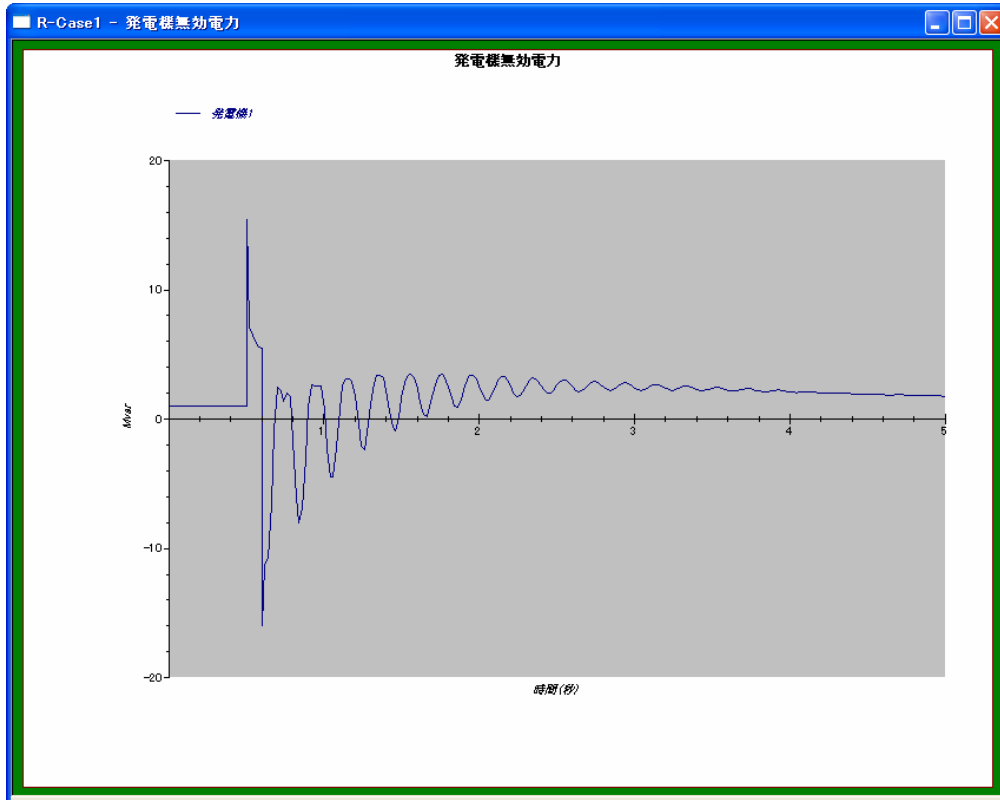

図 15
22. プロットが表示されました。 図 15 参照 Looking at the profile, when the fault occurred, the generator power angle swing to 80 deg (approx). After the fault was cleared, it oscillated and was damped gradually approaching closely to its initial position . Based on this behavior, 発電機 1 stays in synchrony with the utility.